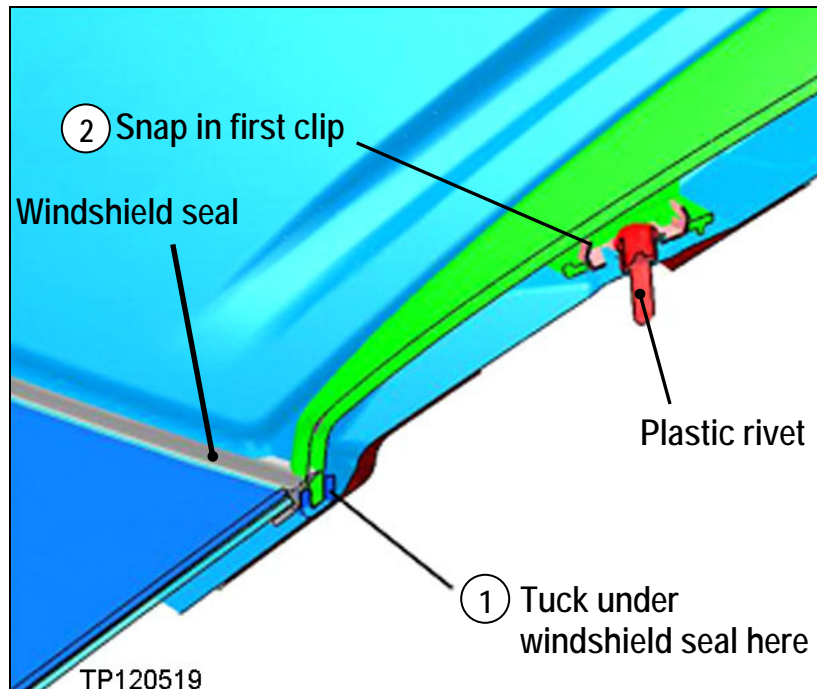

Figure 14
2. Tuck the front end of the new molding (previously painted to match body color) under the windshield seal (see Figure 14).
3. Snap in place the clip closest to the windshield first (see Figure 14).